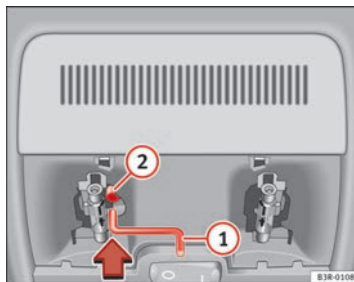

Fig. 83 Detail of headliner: Crank handle for manual operations ►
- Insert the crank handle ① all the way into the hexagonal socket ② ⇒ fig. 83.